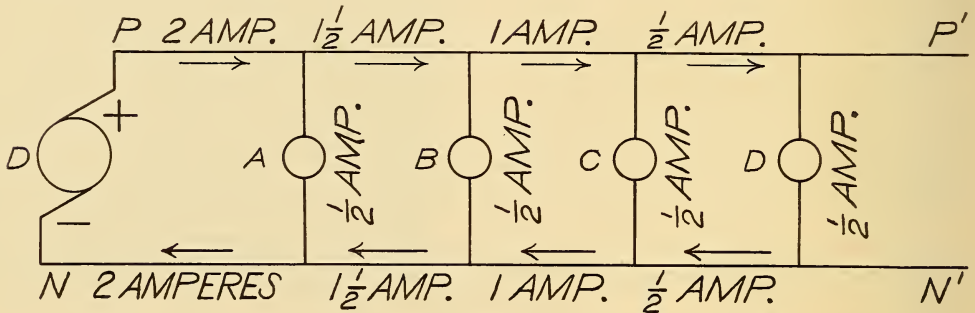

FIG. 14. DIVISION OF CURRENT IN PARALLEL CIRCUIT.
Suppose that four separate incandescent electric lamps, (A), (B), (C) and (D), are connected in multiple or parallel circuit, as represented in Fig. 14, and that each of these lamps requires for its proper operation a current strength of half an ampere. Suppose, moreover, that the difference of potential or electromotive force between the positive and negative leads is sufficient to force a current of half an ampere through each of the lamps. Consequently, a constant current of half an ampere will pass through each of the lamps. It is because the currents are constant in these circuits that the mistake is sometimes made of regarding this species of circuit as a constant-current circuit.
As is well known, incandescent lamps are provided with switches in the shape of keys by which they can be readily connected or disconnected from the leads or mains. Suppose, now, in Fig. 14, that the lamp (D) is turned on by the closing of its circuit, while the lamps (A), (B) and (C) have their circuits left open. Under these circumstances, a current of half an ampere will flow from the dynamo (D), through the positive lead (P P') and, after passing through the lamp (D), will return through the negative lead (N N') re-entering the dynamo at its negative pole. All parts of the leads would therefore have the same current strength of half an ampere passing through them.